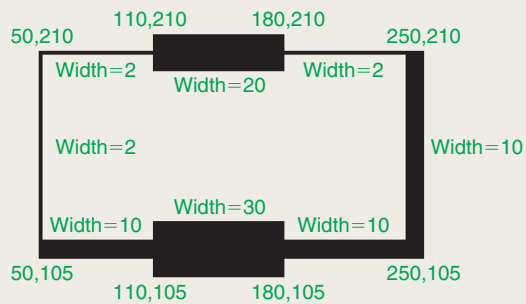

Fig. 2.35 Exercise 8
- Construct the outline shown in Fig. 2.35.